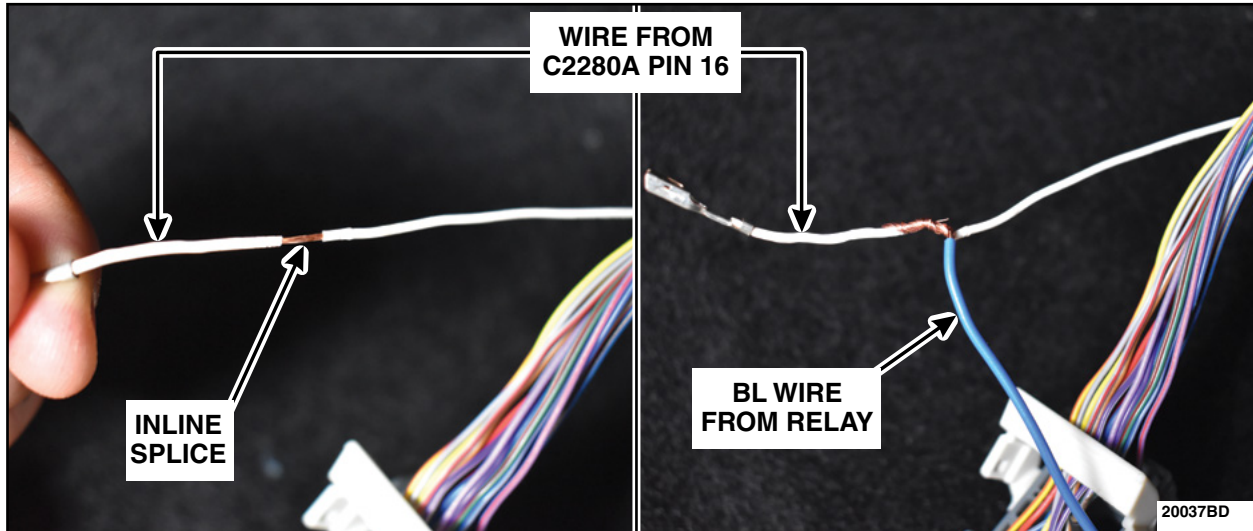

FIGURE 28
46. Remove and discard the terminal on the Blue (BL) wire from the relay. On the wire removed from C2280A pin 16, create an inline splice and wrap the BL wire around the inline splice. See Figure 28.